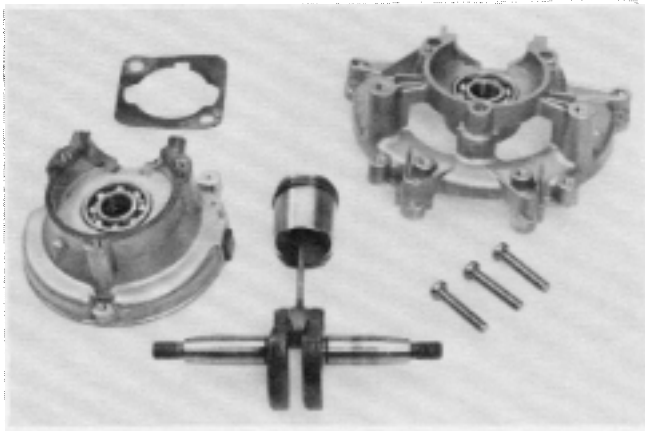

Figure 98
9. From the flywheel end, remove the three screws with lockwashers securing the crankcase halves together and pull apart the crankcase halves. Carefully remove the crankshaft with attached connecting rod and piston. Note that the crankshaft ends are different. The keyway is used to house the flywheel key and will be on the end with the flywheel and coil. See Figure 98.